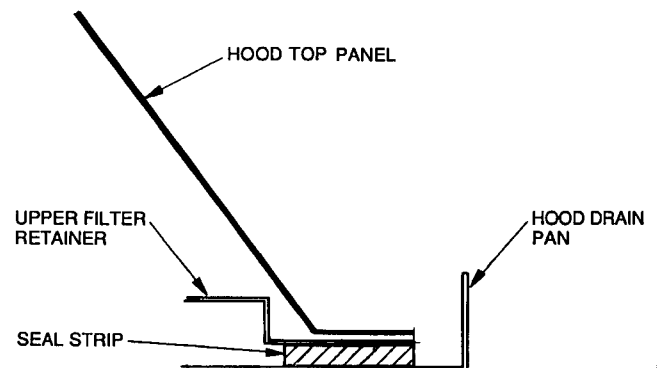

Fig. 21 – Seal Strip Location
1. Attach seal strip to upper filter retainer. See Fig. 21.